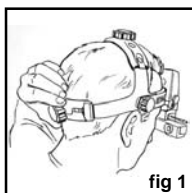
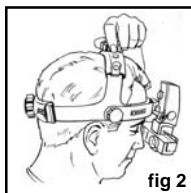

fig 1
fig 2
Adjust the size (A) *fig. 1* and the height (B) *fig. 2*, so that the instrument is supported comfortably around and on top of the head.